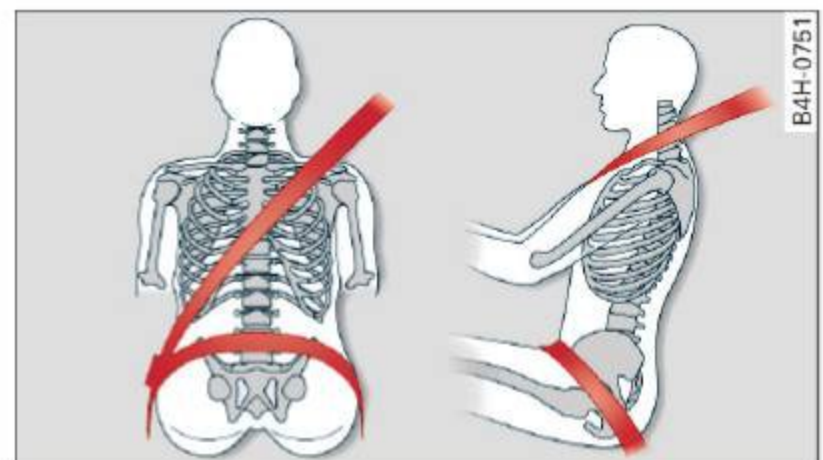

Fig. 137 Safety belt position
- The shoulder belt should lie as close to the center of the collar bone as possible and should fit well on the body. Hold the belt above the latch tongue and pull it evenly across the chest so that it sits as low as possible on the pelvis and there is no pressure on the abdomen. The belt should always fit snugly ⇒ *fig. 137*. Pull on the belt to tighten if necessary.
- The lap belt portion of the safety belt must be positioned as low as possible across pelvis and never over the abdomen. Make sure the belt lies flat and snug ⇒ *fig. 137*. Pull on the belt to tighten if necessary.